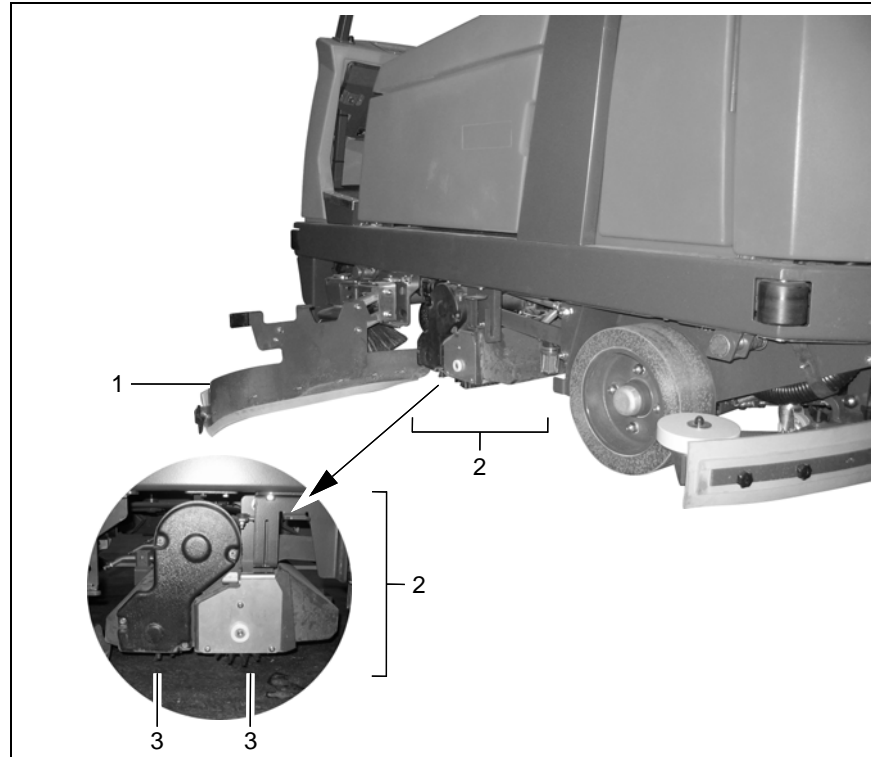
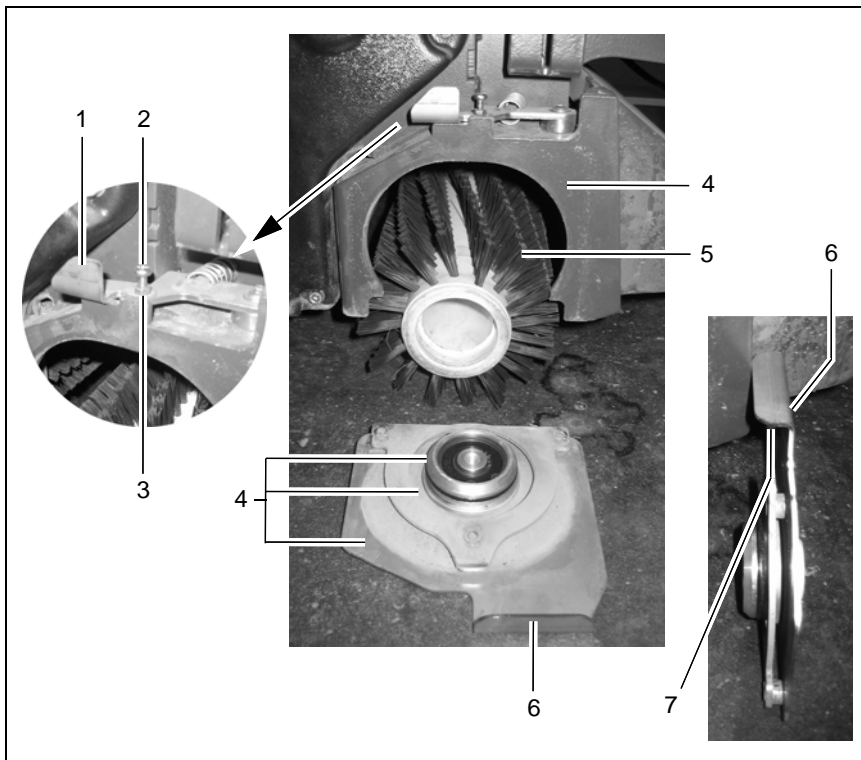

Fig. 29
Fig. 31
The rotary brush head (Fig. 29/2) may only be assembled, disassembled and adjusted by properly trained service personnel.
The two rotary brushes (Fig. 29/3) are not component parts of the delivery. They must be selected separately according to the task they are intended to fulfill (refer to Section 4) and installed according to the instructions on the rotary brush head (Fig. 29/2), refer to Section 2.3.1. Normally, however, the authorized Hako workshop will install them for you prior to delivery.
The following applies prior to starting any maintenance work on the rotary brush head: Open the deflectors and move them to their service position (Fig. 29/1) (also refer to Section 2.3.1, Point 1).
1. Slide the locking lever (Fig. 31/1) to the middle of the device and hold it there.
2. Allow the brush holder (Fig. 31/6) to lower under its own weight and then pull out.
3. Release the locking lever (Fig. 31/1).
Pull out the rotary brush (Fig. 31/5), overcoming its resistance. Also refer to Section 2.3.1 (reverse working sequence).
2. Mount the brush holder (Fig. 31/6) on the rotary brush, press against the housing and then slide upwards as far as possible.
3. Pivot the locking lever (Fig. 31/1) back under the brush holder as far as possible.
Each time the rotary brushes are changed, all the contact surfaces (Fig. 31/4 and Fig. 29/7) must be thoroughly cleaned with a damp cloth, with a little cleaning agent added, if necessary.
1. Remove the brush holder (Fig. 31/6) (refer to paragraph "Removing the brush holder").
2. Loosen the counternut (Fig. 31/3).
3. Screw the oval-head screw (Fig. 31/2) in or out.
The oval-head screw (Fig. 31/2) is adjusted correctly when it lightly scrapes under the brush holder (Fig. 31/7).
5. Remove the brush holder (Fig. 31/6) (refer to paragraph "Removing the brush holder") and adjust the oval-head screw (Fig. 31/2) until it is at the correct height (repeat Step 4 several times if necessary).
6. Tighten the counternut (Fig. 31/3).